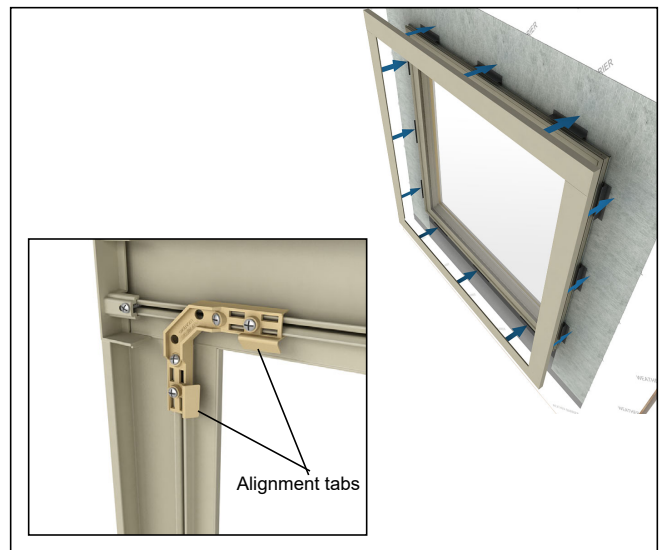

Figure 26
6. Press casing assembly onto connection barbs by lining up all corners with the corner key alignment tabs. Press firmly (20-40 pounds of pressure) around the entire casing assembly until it is seated fully over frame. **Do not use excessive force, mallets, hammer, etc.** See *figure 26*.